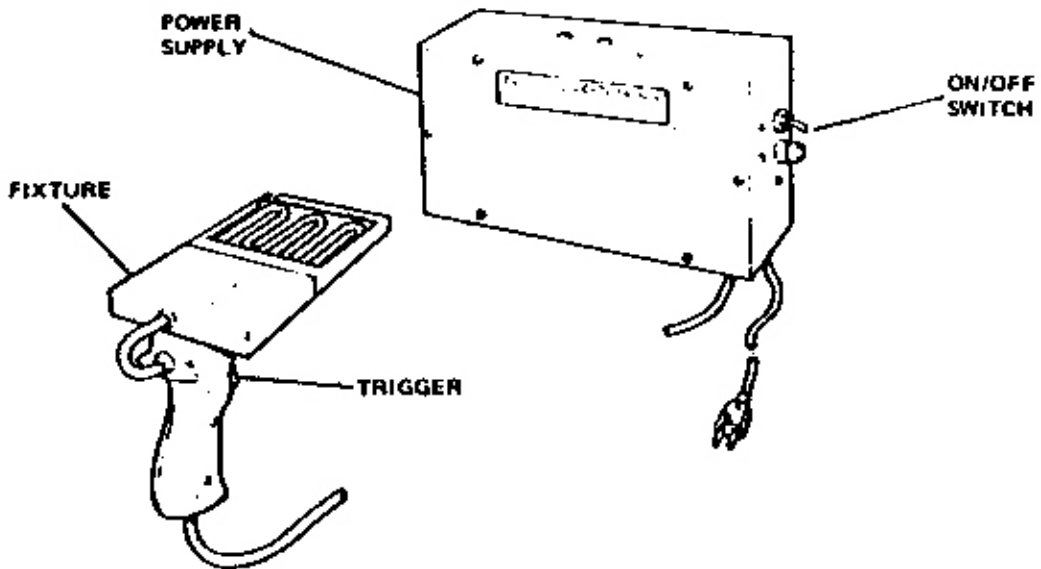

Figure 3-8 Light leak test system
- (1) Rotate the camera focus wheel to the 10.4" setting.
- (2) Insert a used flash bar into the camera flash socket and position the spring clip (supplied with the tester) over the flash bar so the photocell is covered.
4. Light Leak Tester (Figure 3-8)